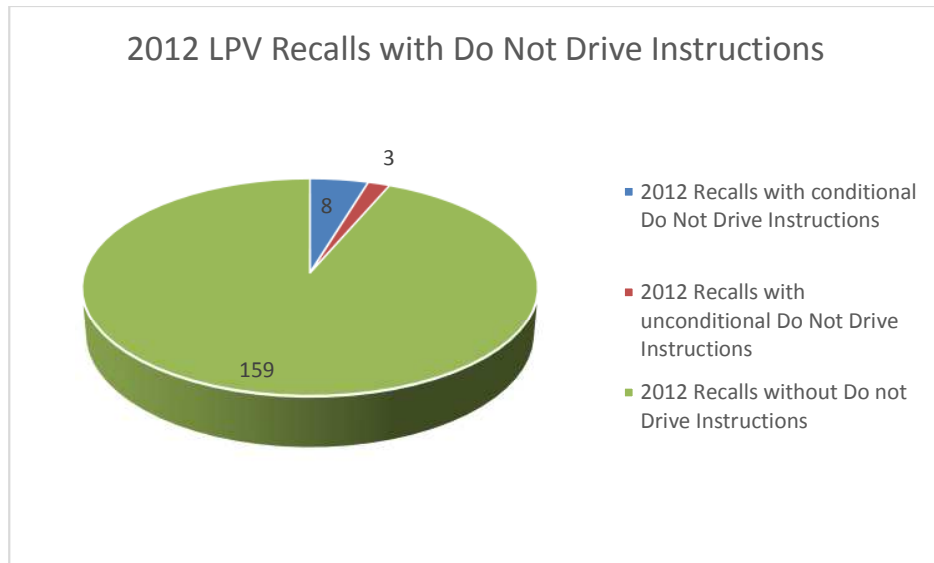

Figure 2. 2012 LPV Recalls with Do Not Drive Instructions
Eleven (11) of the one hundred seventy (170) 2012 LPV recalls contained DND instructions. Eight (8) of those DND instructions were conditional upon owner detection of a defect. Three recalls (12v336, 12v475, and 12v504) had unconditional “do not drive” recommendations. In the graph in figure 2 these three recalls are counted and categorized as recalls with “unconditional” DND instructions. For the text detailing the DND instructions for the 2012 LPV recalls see Appendix A-2.